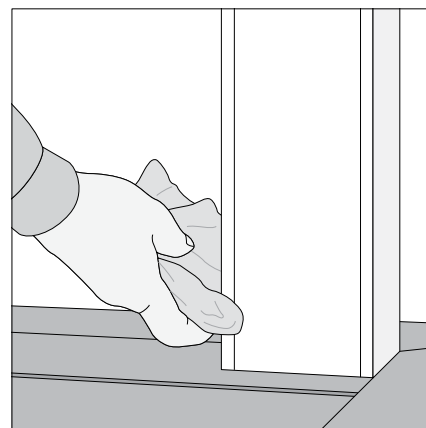

Fig. 3b
- Carefully slide your hand upward along the face of the loose panel so it snaps into place along the full length of the KLEERWrap Post Wrap. Wipe away the excess adhesive from the joints with a clean rag (**Fig. 3b**).